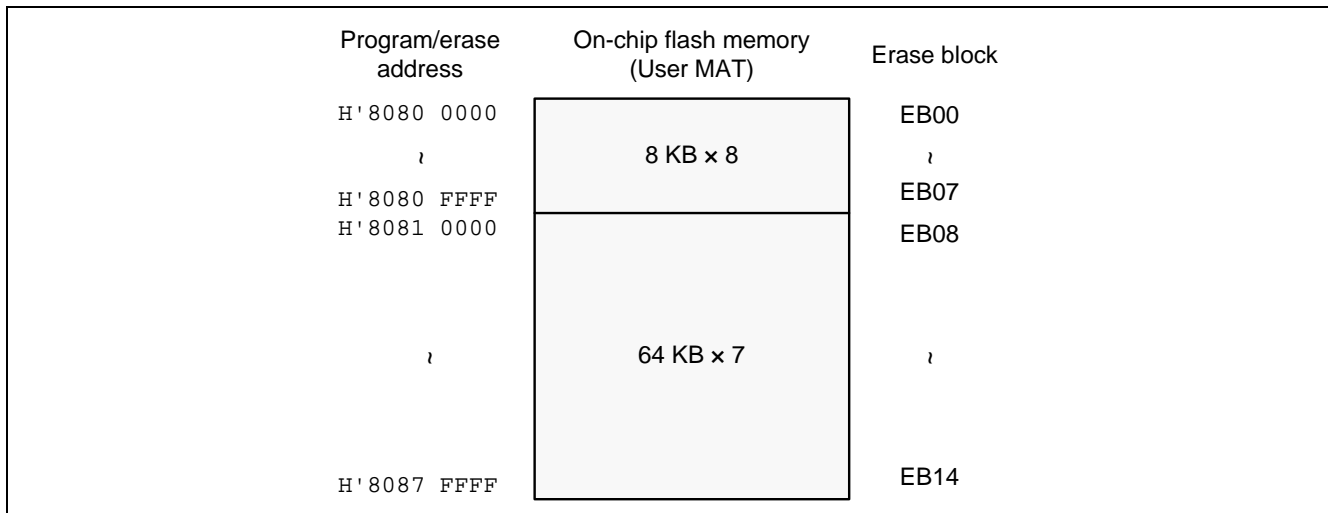
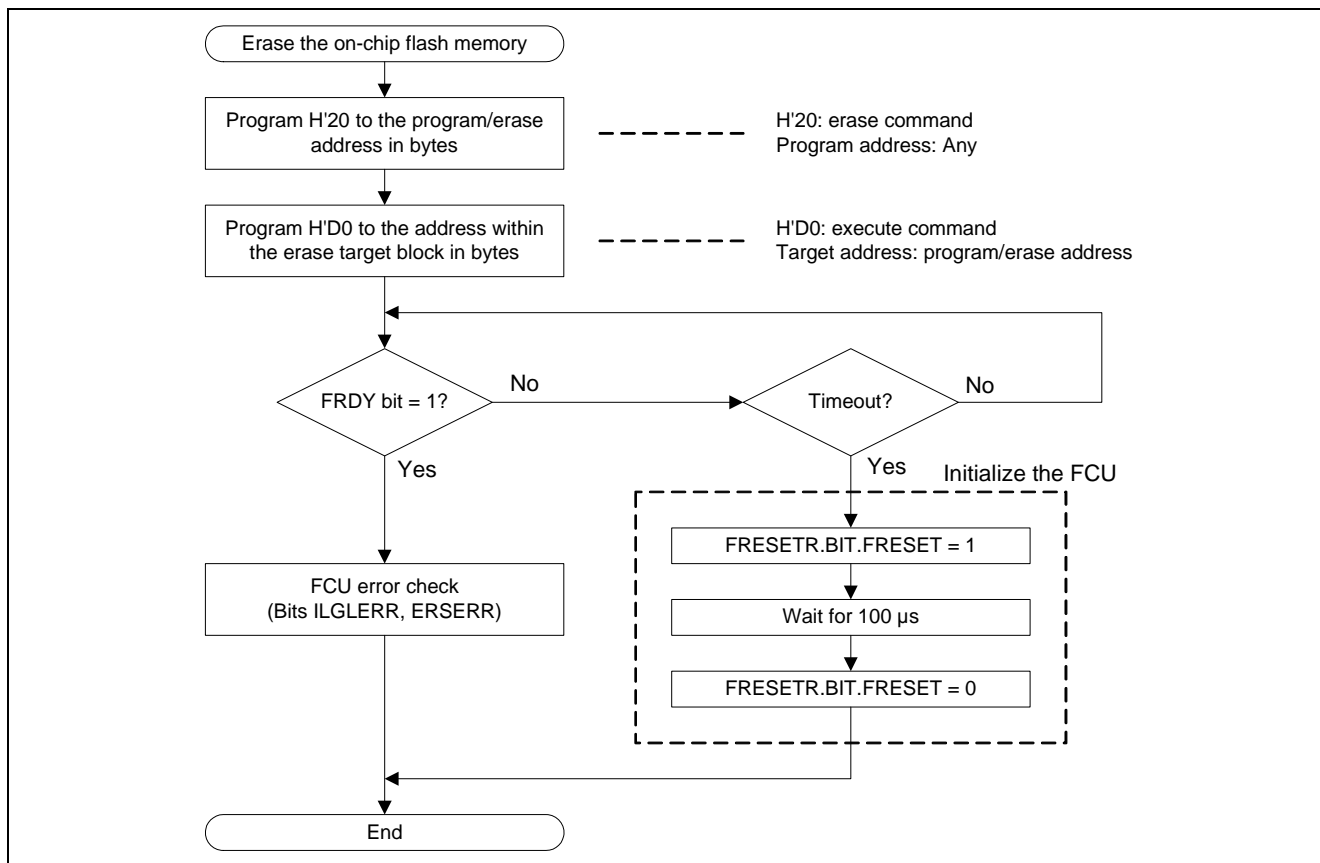

Figure 5 Dividing the On-chip Flash Memory Erase Block
Figure 6 Flow Chart for Erasing the On-chip Flash Memory
Figure 5 shows the block division of the SH7239. Table 1 lists each block and address. Figure 6 shows the flow chart ⁽²⁾ for erasing the on-chip flash memory.
2. The flow chart in Figure 6 does not follow the standard API.